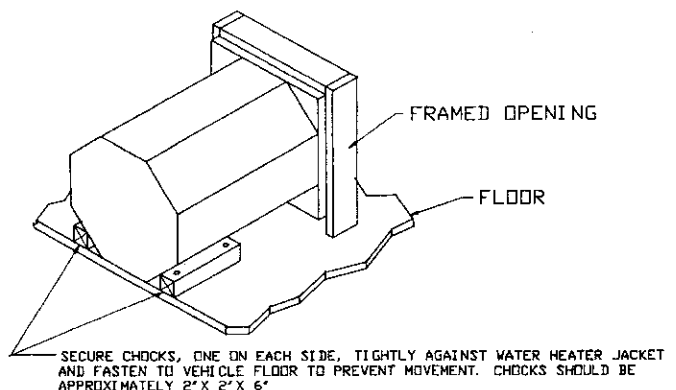

Figure 1A
C. Install chocks, one on each side of water heater, as illustrated in Figure 1A.
G. Insert door frame into control housing and secure with four (4) No. 8-15 x 3 1/2" screws provided.
H. Install chocks, one on each side of water heater, as illustrated in Figure 1A.